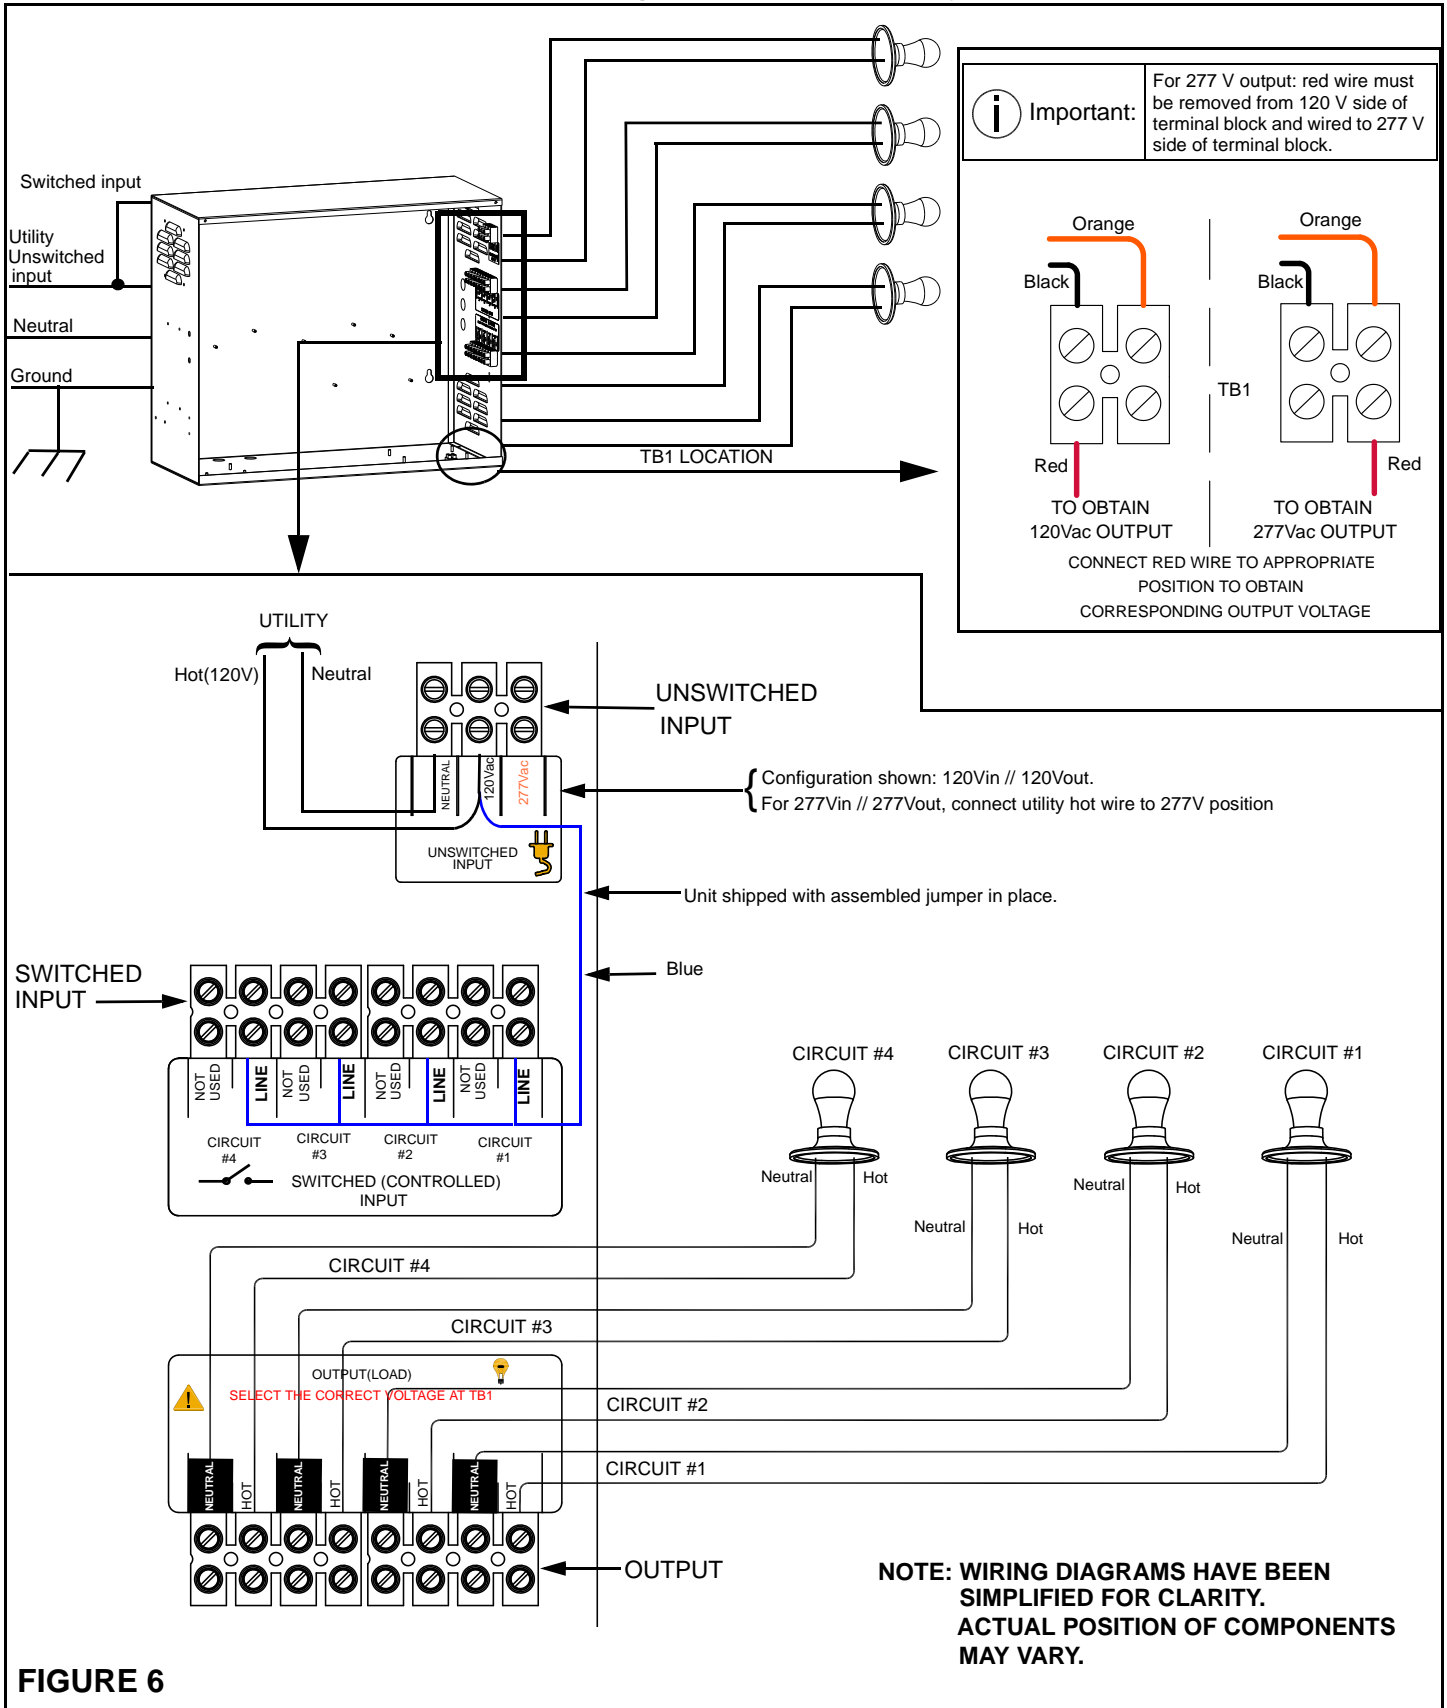

FIGURE 6
- b. Identify the terminal block for UNSWITCHED INPUT (figures 6, 7, 8 or 9).
- Normally-On Operation** (Refer to Figure 6 for wiring details) - Fixtures remain illuminated in normal AC and emergency modes.
Refer to the applicable wiring diagram in figures 6, 7, 8 and 9 to connect the utility AC power and external control devices (where applicable). Perform all wiring procedures in accordance with applicable codes. The unit is shipped configured to operate in Normally-On mode by using an assembled jumper. This jumper can be removed to configure the SWITCHED INPUTS as desired.
- c. Identify output terminal block (refer to figures 6, 7, 8 and 9).